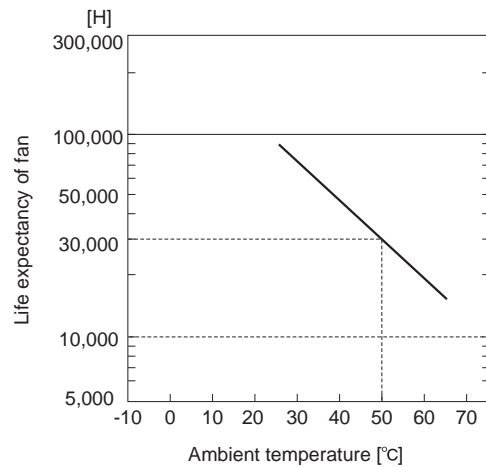

Fig.4.1 Life expectancy of fan(R(t)=90%)
■Regular exchange is necessary for the fan, because the life expectancy(R(t)=90%) of the fan depending on the use condition is shown in Fig.4.1.